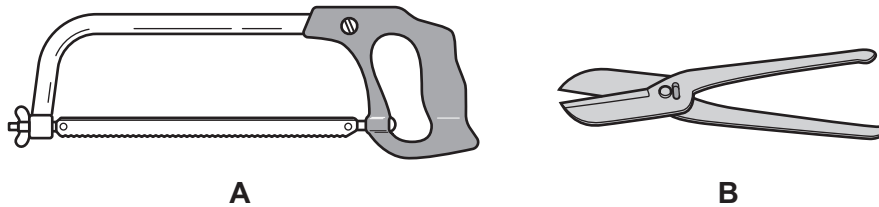

Fig. 12.4
- (i) Fig. 12.4 shows two tools, **A** and **B**, that could be used to cut out the waste metal.